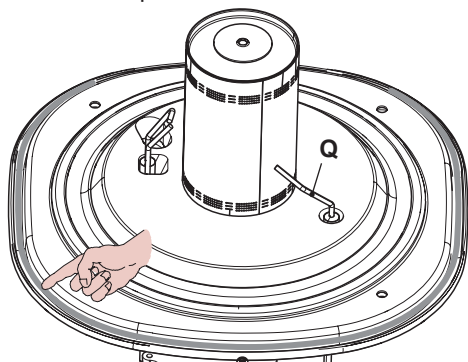
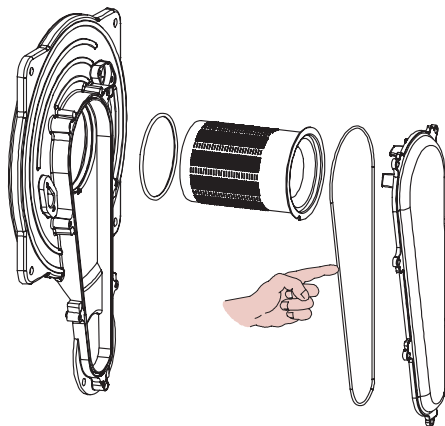

Fig. 10.10
Fig. 10.11
- The silicon seal on the front wall of the combustion chamber Fig. 10.10 and the seal on the air/gas pipe cover (Fig. 10.11) must be replaced if worn.
- The detection electrode **Q** in Fig. 10.10 also functions as a sensor for the correct drainage of the condensate. Should the mentioned electrode come into contact with the condensate water present within the combustion chamber it sends the boiler into safety lockout. Therefore, should the insulation be wet or deteriorated, provide for the substitution of the same.
Caution: After any periodical servicing or disturbance the combustion chamber silicon seal Fig. 10.10 and the Air-gas duct gasket (Fig. 10.11) must be fully inspected and replaced at the discretion of the service engineer.